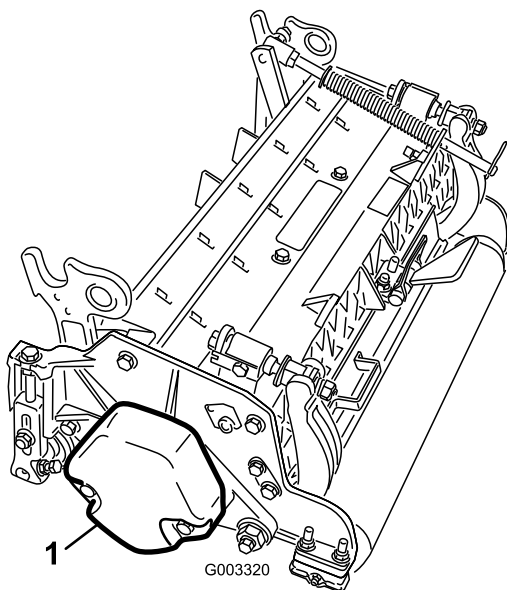

Figure 16
- On the #2, #4 and #6 cutting units, remove the 2 cap screws securing the counter weight to the left end of the cutting unit. Remove the counter weight (Figure 16).